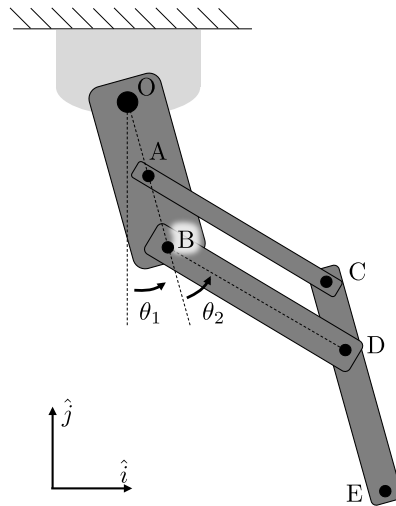

Figure 5: Illustration of the leg model.
- Determine values of the angles θ_1 and θ_2 (shown in Fig. 5) for this initial configuration. Record them on your lab notebook in both radian and degrees. Note that angles are measured as positive in the CCW direction. Once determined, you may pass values to the mbed using the input parameters `angle1_init` and `angle2_init` in MATLAB .